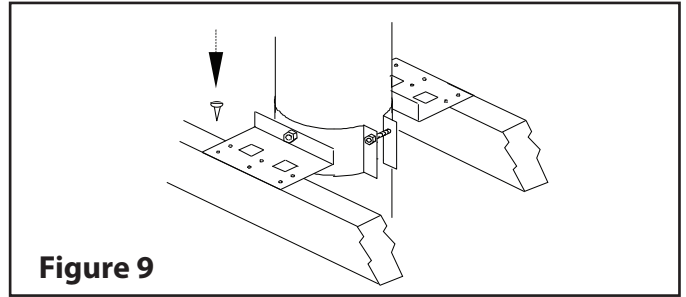

Figure 9
With the chimney extending through the opening in the roof, ceiling or floor proceed as follows (Refer to Figures 9 & 10 for visual references):
- Step 4. Center the chimney and nail or screw the support to the roof or floor using (8) - 2-1/2" nails or (8) #8 - 1-1/4" wood screws (see Figure 9).